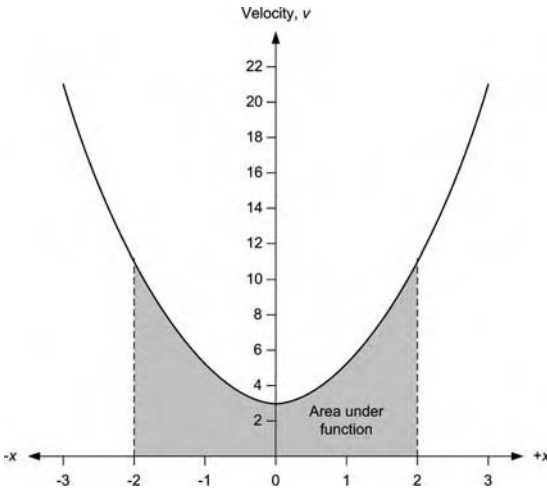

Figure 3.34 Graph of the function $y = 2x^2 + 2$.
- Determine by integration the area enclosed by the curve $y = 2x^2 + 2$, the x -axis and the ordinates are $x = -2$ and $x = 2$ (Figure 3.34).